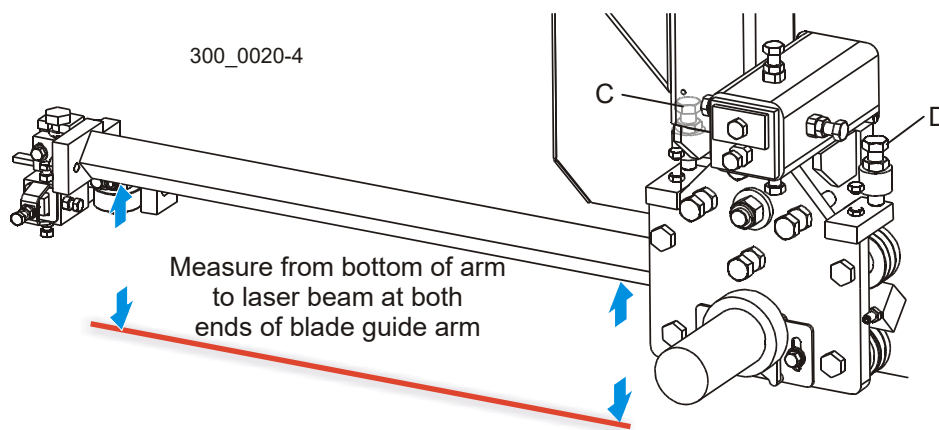

FIG. 3-22
See **Figure 3-22**. Adjust the blade guide arm all the way in. Measure from the bottom of the arm to the laser beam at both ends of the arm. The two measurements at each end of the arm should be the same within 1mm (1/32"). To adjust the vertical tilt of the arm, adjust the bolts (C & D) on the blade guide arm mounting plate. Loosen the jam nuts. Adjust bolt (C) up and bolt (D) down to tilt the arm up. Adjust bolt (D) up and bolt (C) in to move the arm toward the blade. Recheck the distance from the arm to the laser beam at both ends of the arm. Readjust if necessary. Tighten the jam nuts.